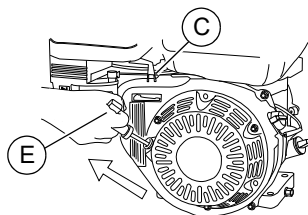

Figure 3-5. Engine Recoil
4. See Figure 3-5. Move throttle lever (C) about 1/3 away from the MIN position.